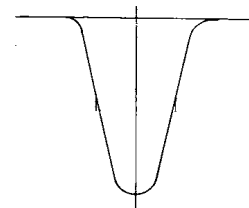

Fig. 8.
- (8) Connect the ground side of the sweep generator output dummy to the local oscillator shielded plate. Adjust the variable capacitor so that it has minimum capacitance.
- (9) Adjusting T151 core, make a waveform as in Fig. 8. Because of the ceramic filters used, the markers may be out of position. If this happens, neglect the markers.
- (10) Set the input level to 74dB in coarse adjustment. Reduce the input level to minimum (50dB) as adjustment proceeds.